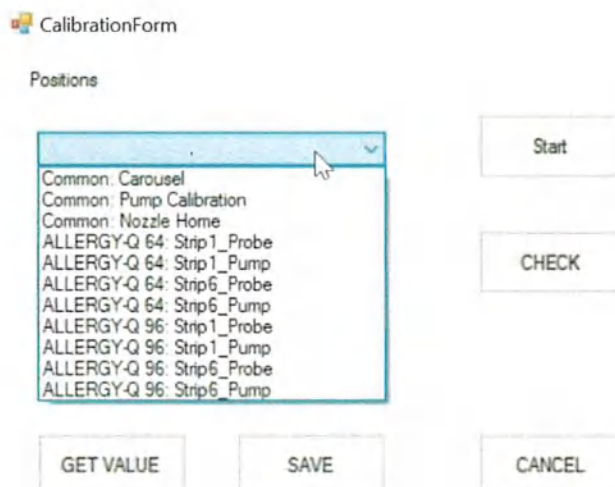

Figure 25
9.5.4.2 If you click the drop-down menu in the Positions area, you can check the calibration lists [Figure 25].
9.5.4.3 Select one of the calibration lists and press the Start button [Figure 25].